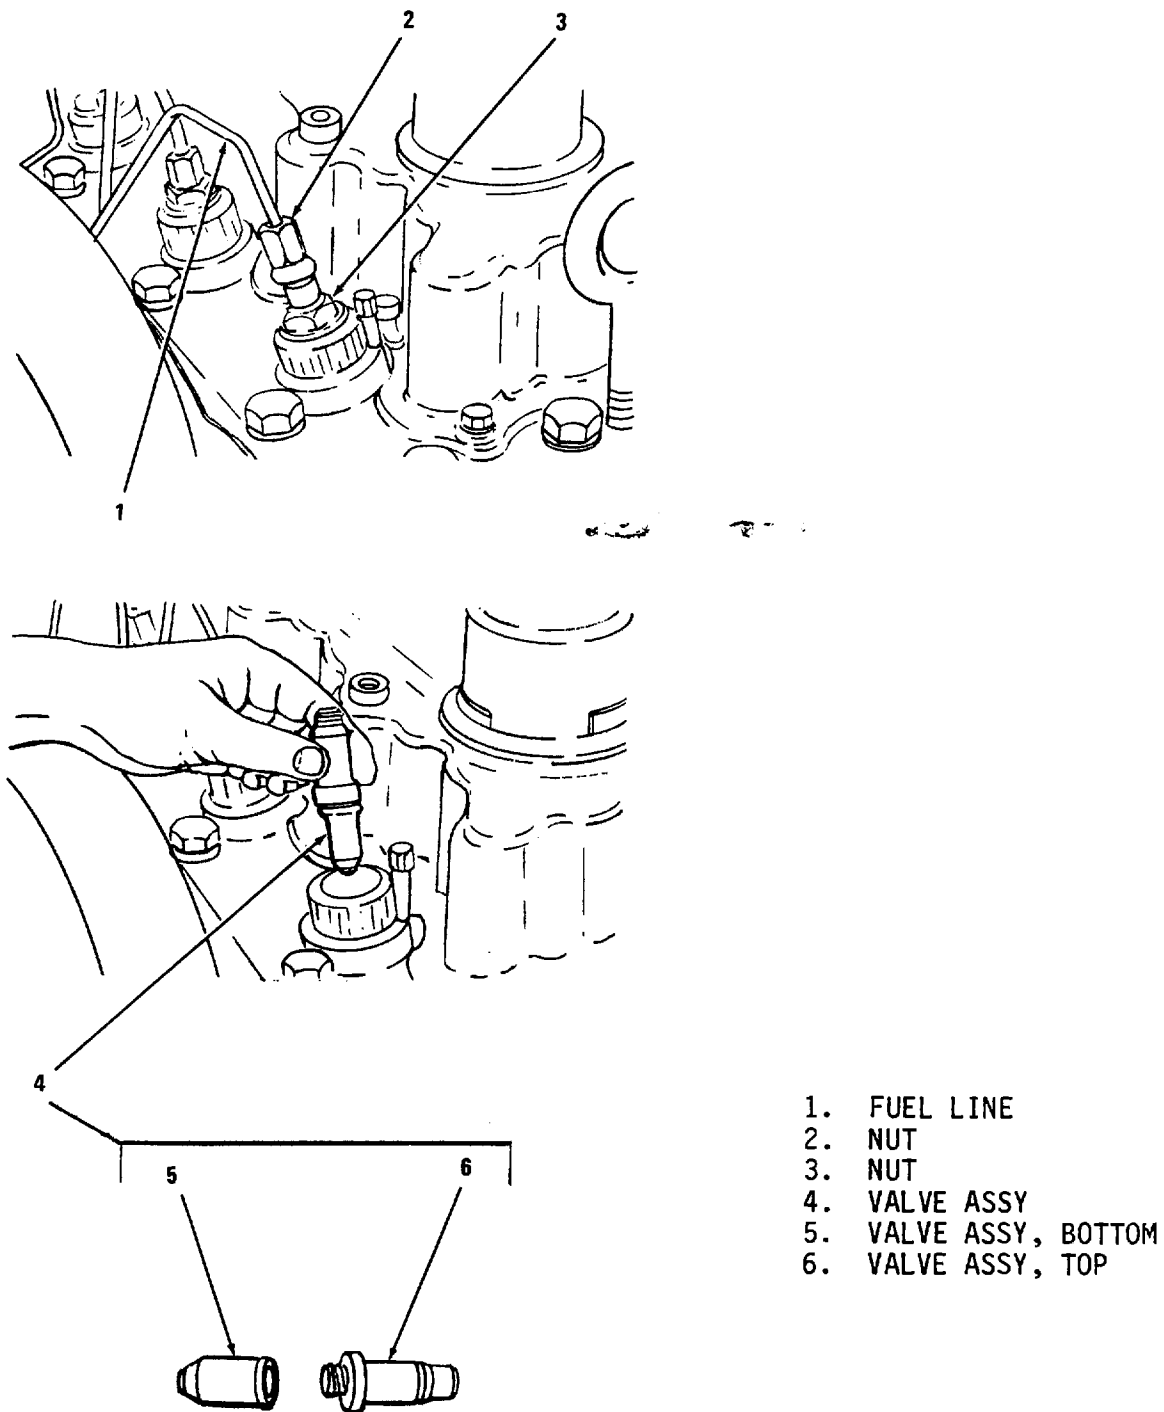

Figure 4-49. Fuel Injection Valves, Removal and Replacement
(1) Remove fuel injection line(s) (1, figure 4-49) by loosening nut (2). Put a cap on the open fuel injection line(s).
(2) Remove nut (3).
(3) Remove the fuel injection valve and body (4) from precombustion chamber.
(4) Remove fuel injection valve (5) from body (6).